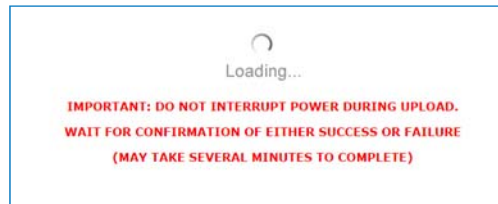
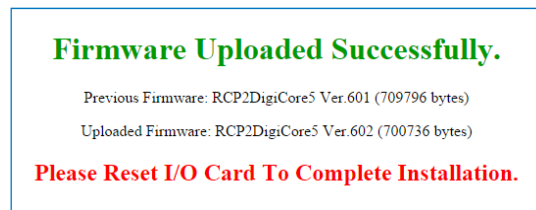

Figure 6-5: Upload Process Message
Figure 6-6: Upload Completed Message
- The upload process will begin and the form will be informing about loading process (See **Figure 6-5**). Do not interrupt this process and wait until its completion with positive or negative result. The process may take up to 15 minutes. When completed, the form will notify about end of process. See **Figure 6-6**.